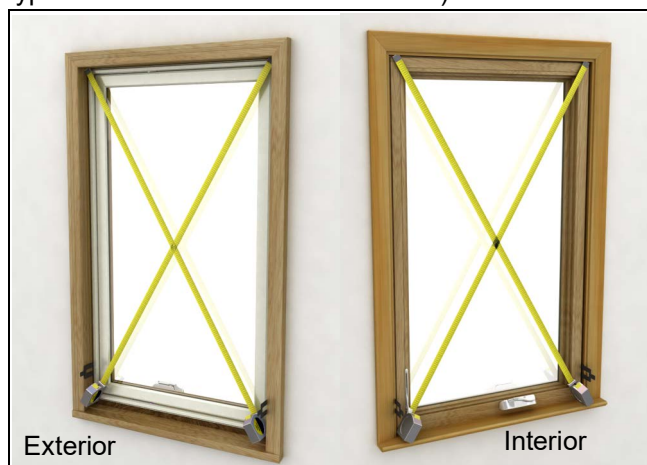

Figure 20
11. Place shims at the bottom corners at the pre-drilled screw holes in the jamb. See Figure 20. (Horseshoe type stackable shims recommended.)